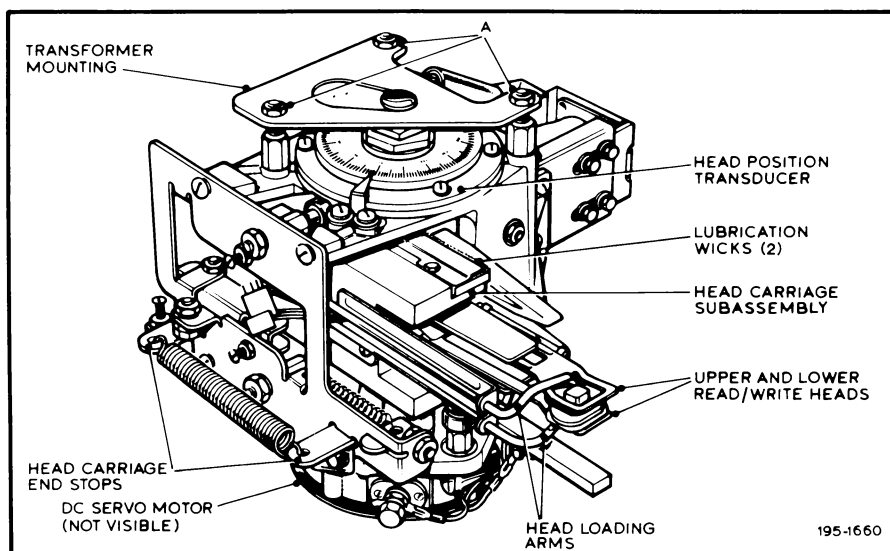

FIGURE 5.4 HEAD POSITIONER ASSEMBLY
- (d) A sine-wave signal with an amplitude of 15 volts peak-to-peak should appear on the oscilloscope. If necessary, loosen the upper nuts A (shown on figure 5.4) and rotate the transformer mounting until 15 volts peak-to-peak is observed